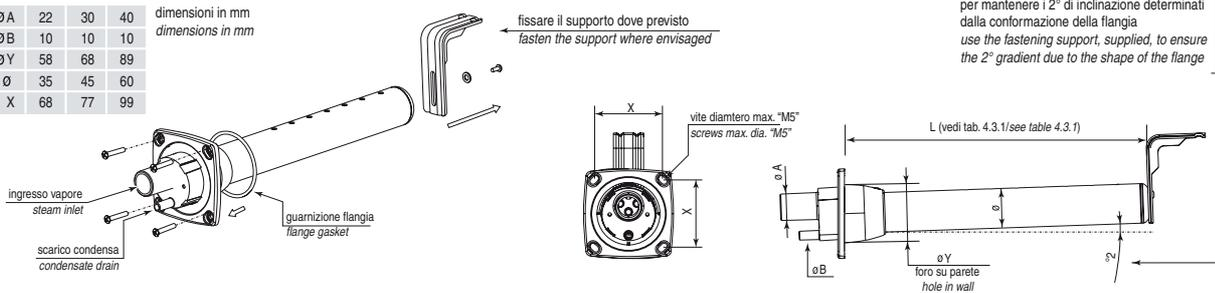

Fig. 4.1
The humidifier may be used for small ducts with a static pressure of no greater than 500 Pa. For steam distribution into air ducts, the steam distributor must be sized according to the output of the humidifier and the cross-section of the ducting. For this purpose, CAREL supplies linear distributors made of stainless steel with plastic terminals. Figures 4.1 and 4.2 show the dimensions of the CAREL distributors, while Table 4.1 indicates the minimum number and the model of the distributors recommended for the type of humidifier used.
- praticando sulla parete del canale una serie di fori secondo la dima di foratura indicata nella Fig. 4.1;
- making a series of holes in the wall of the duct according to the drilling template indicated in Figs. 4.1 or 4.2;